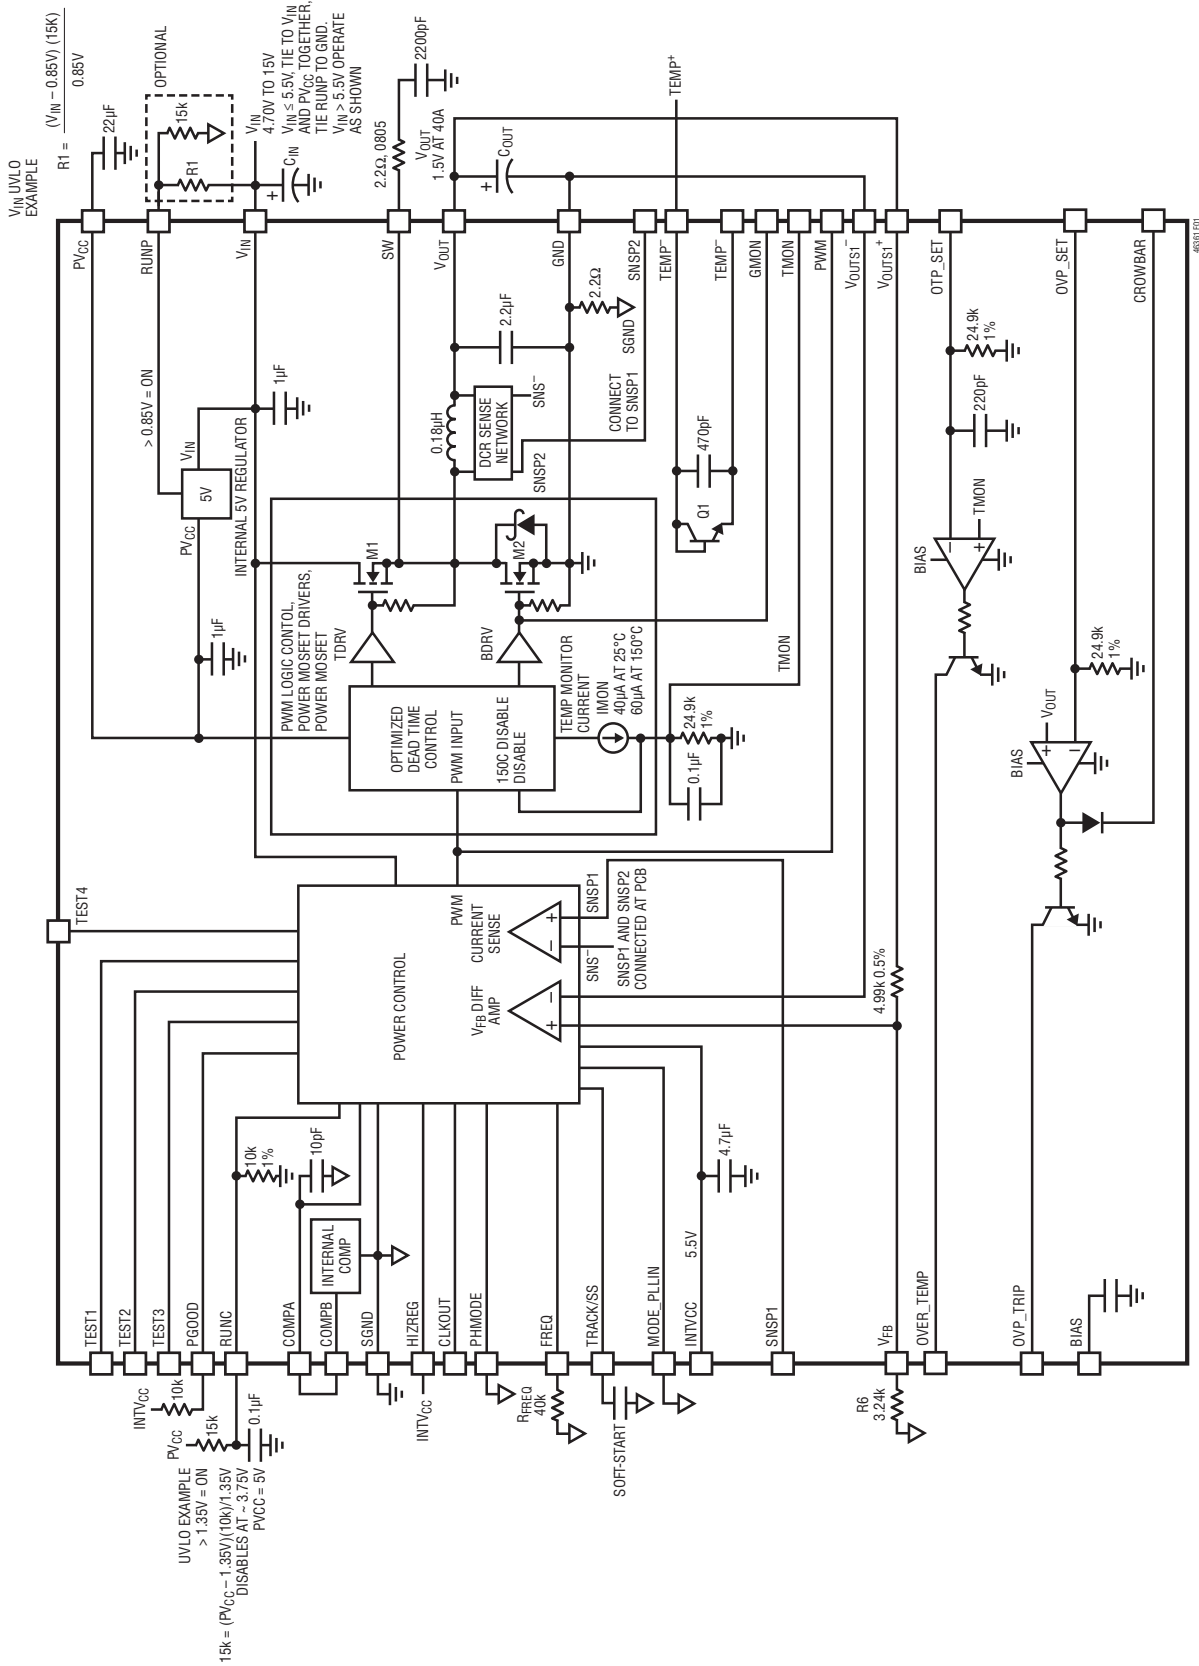

Figure 1. Simplified LTM4636-1 Block Diagram
to ground is internal to the module for setting the RUN pin threshold with a resistor to 5V, and allowing a pull-up resistor to  $PV_{CC}$  for enabling the device. See Figure 1 Block Diagram.
**RUNP (G8):** This pin enables the  $PV_{CC}$  supply. This pin can be connected to  $V_{IN}$ , or tie to ground when connecting  $PV_{CC}$  to  $V_{IN} \leq 5.5V$ . RUNP needs to sequence up before RUNC. A 15k resistor from  $PV_{CC}$  to RUNC with a 0.1 $\mu$ F capacitor will provide enough delay. In parallel operation with multiple LTM4636-1s, the resistor can be reduced in value by N times and the 0.1 $\mu$ F can be increased N times. See Applications Information section. RUNP can be used to set the minimum UVLO with a voltage divider. See Figure 1.
## DECOUPLING REQUIREMENTS $T_A = 25^\circ\text{C}$ . Use Figure 1 configuration.